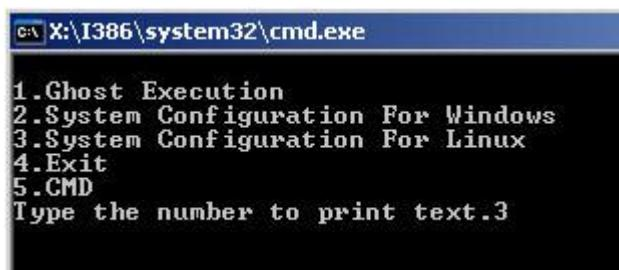

Figure B-23: System Configuration for Linux
Step 4: Build-up recovery partition. Press any key to boot from the recovery CD. It will take a while to launch the recovery tool. Please be patient. When the recovery tool setup menu appears, type <3> and press <Enter> (**Figure B-23**). The Symantec Ghost window appears and starts configuring the system to build-up a recovery partition. After completing the system configuration, press any key to reboot the system. Eject the recovery CD.